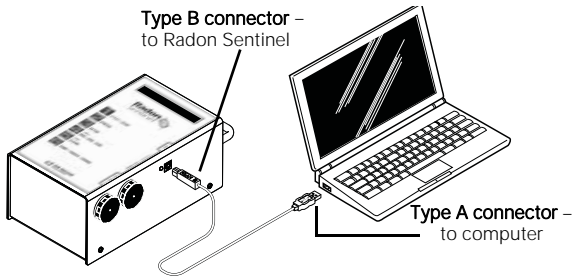

Figure 7. USB Connectors
- 1 Connect the USB type A connector (Figure 7) to the computer or USB hub.